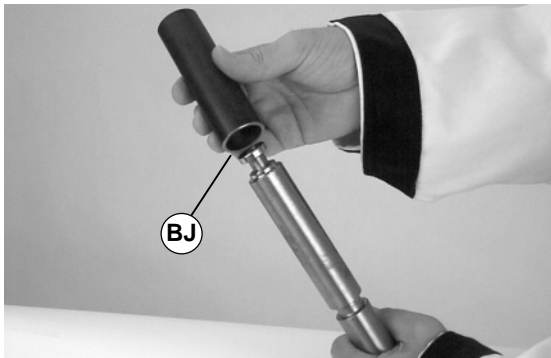

Figure 43
- Slide the sleeve of tool (part # 450282) (BJ of Figure 43) over bearing.